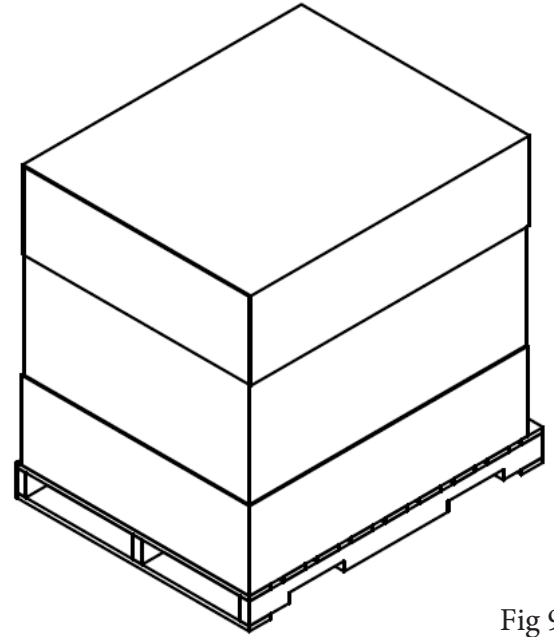

Fig 9.1
1. Inspect shipping container (Fig 9.1) for visible damage upon arrival. If transit damage is found, contact Ergonomic Products immediately. (This will expedite the corrective process).